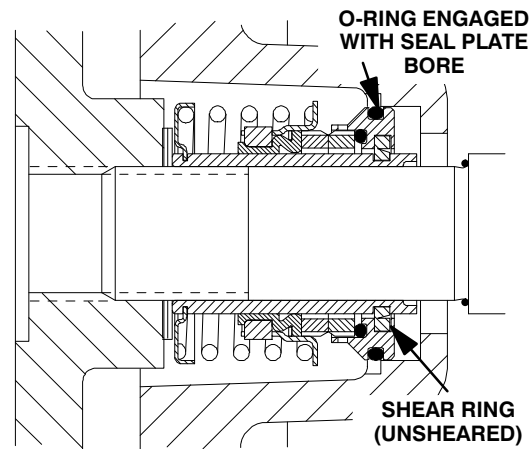

Figure E-7. Seal Partially Installed
Clean and inspect the impeller as described in **Impeller Installation and Adjustment**. Install the full set of impeller shims (2) provided with the seal, and screw the impeller onto the shaft until it is seated against the seal (see Figure E-7).